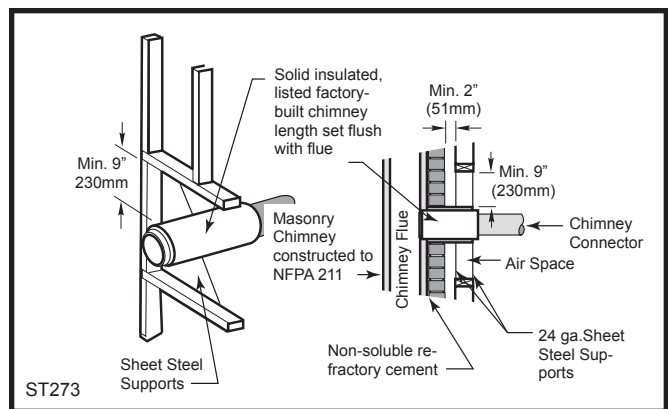

Fig. 10 Wall Pass-through using factory-built insulated chimney section.
- Using a section of double-wall chimney with a 9" (229 mm) clearance to combustibles. (Fig. 10)